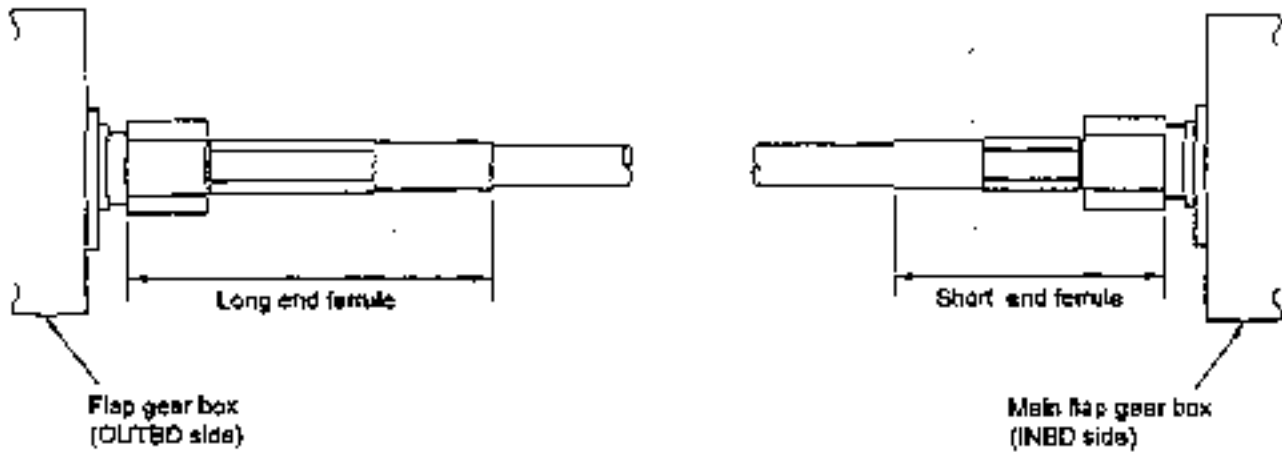

Fig. 5-96A
CHANGE : Revision of NOTE next to Paragraph 9.3.7.(15) and addition of Fig.5-96A and 5-96B as follows.
(15) Connect torque shaft which leads to flap stop assembly to inboard actuator gear box. (REF)
- i When replacing or reinstalling the flap flexible shaft, install the short end ferrule to main flap gear box side (See Fig. 5-96A) Aircraft that have the flap flexible shaft installed with the longer end ferrules attached to the main flap gear box side are acceptable provided that 8.7 inches minimum radius is maintained.